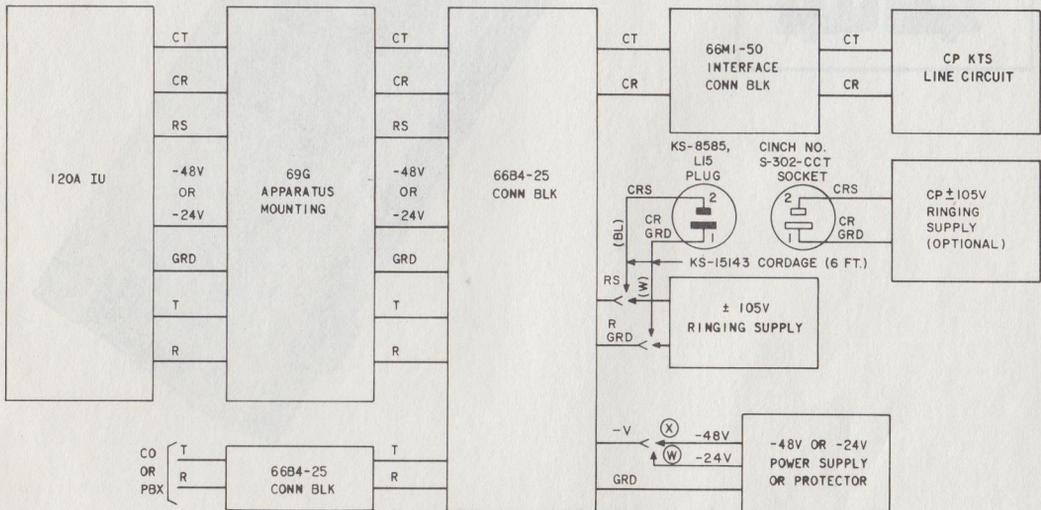

Fig. 5—Block Diagram—120A Interconnecting Unit in 69G Apparatus Mounting
3. INSTALLATION**69G Apparatus Mounting (Fig. 5 and 6, and Table E)**